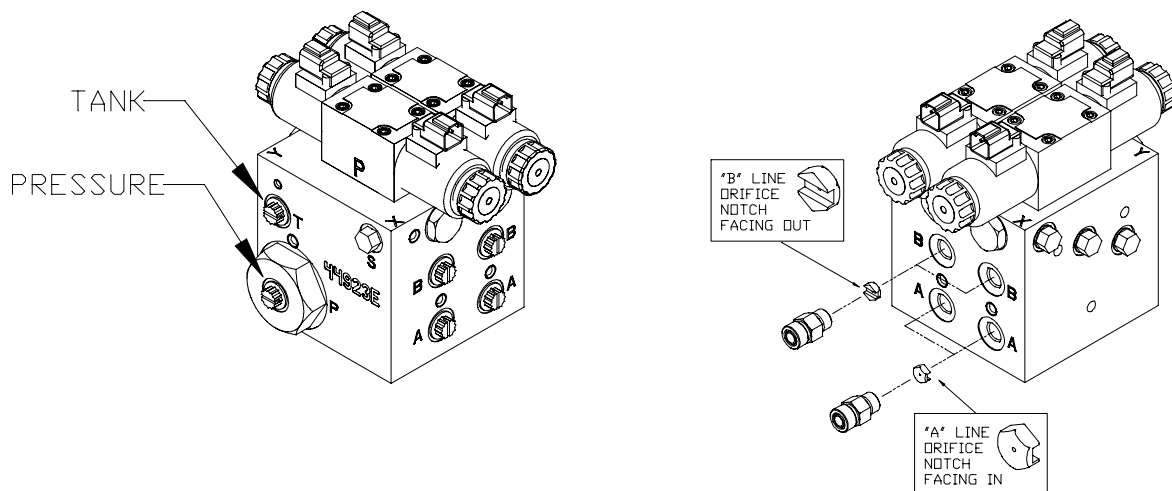

Figure 24: NORAC Valve Block Details
3. Insert the two orifices into the "B" ports. Note the orifice orientation in **Figure 24**.
5. Insert the two orifices into the "A" ports. Note the orifice orientation in **Figure 24**.